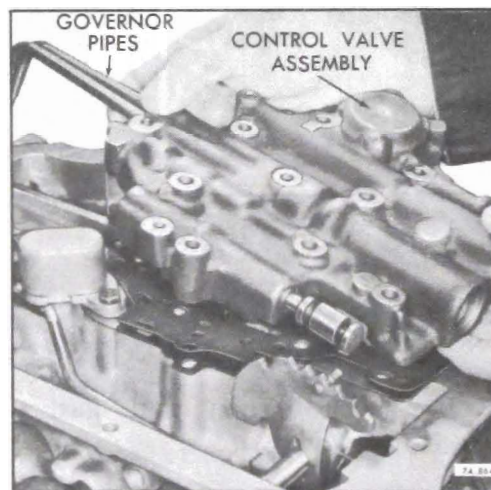

Figure 76-514
4. Remove valve body assembly and governor pipes. See Figure 76-514.